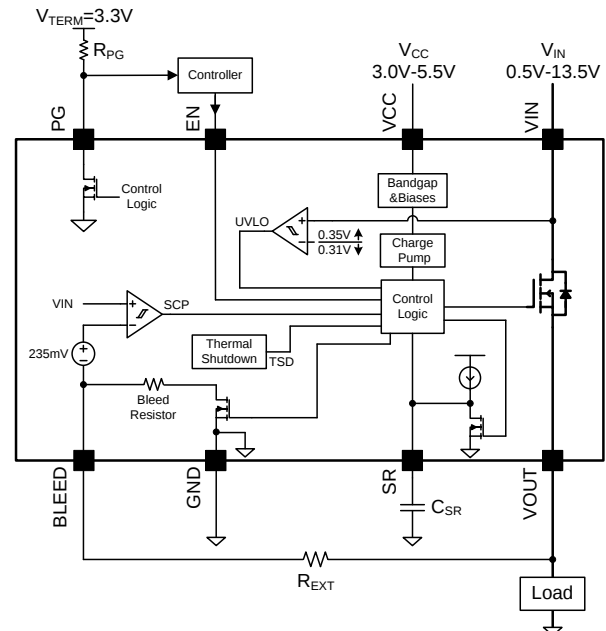
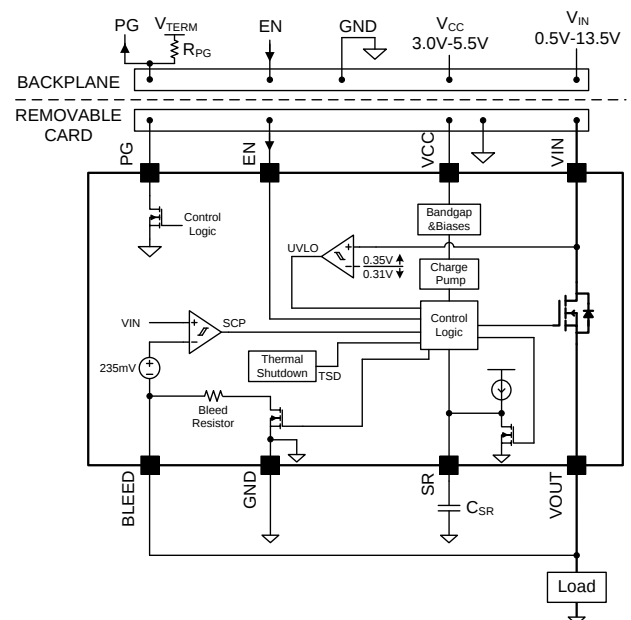

Figure5. Typical Application Diagram – Load Switch
Figure 6. Typical Application Diagram – Hot Swap
The SQ24801DCD has an internal bleed resistor, R_{BLEED} , which is used to bleed the charge off of the load to ground after the MOSFET has been disabled. In series with the bleed resistor is a bleed switch that is enabled whenever the MOSFET is disabled. The MOSFET and the bleed switch are never concurrently active. It is required that the BLEED pin be connected to V_{OUT} either directly (as shown in Figure 6) or through an external resistor, R_{EXT} (as shown in Figure 5). R_{EXT} should not exceed 1 k Ω and can be used to increase the total bleed resistance. Care must be taken to ensure that the power dissipated across R_{BLEED} is kept at a safe level. The maximum continuous power that can be dissipated across R_{BLEED} is 0.4 W. R_{EXT} can be used to decrease the amount of power dissipated across R_{BLEED} .
The SQ24801DCD has a power good output (PG) that can be used for indicating when the gate of the MOSFET is fully charged. The PG pin is an active-high, open-drain output that requires an external pull up resistor, R_{PG} , greater than or equal to $1k\Omega$ to an external voltage source, V_{TERM} , compatible with input levels of other devices connected to this pin (as shown in Figures 5 and 6). If the power good feature is not used in the application, the PG pin should be tied to GND.
The SQ24801DCD is equipped with controlled output slew rate which provides soft start functionality. This limits the inrush current caused by capacitor charging and enables these devices to be used in hot swap applications. The slew rate can be decreased with an external capacitor added between the SR pin and ground (as shown in Figures 5 and 6). With an external capacitor present, the slew rate can be determined by the following equation:
Once active, the circuitry monitors the difference in the voltage on the V_{IN} pin and the voltage on the BLEED pin. In order for the V_{OUT} voltage to be monitored through the BLEED pin, it is required that the BLEED pin be connected to V_{OUT} either directly (as shown in Figure 6) or through a resistor, R_{EXT} (as shown in Figure 5), which should not exceed $1k\Omega$. With the BLEED pin connected to V_{OUT} , the short circuit protection is able to monitor the voltage drop across the MOSFET.